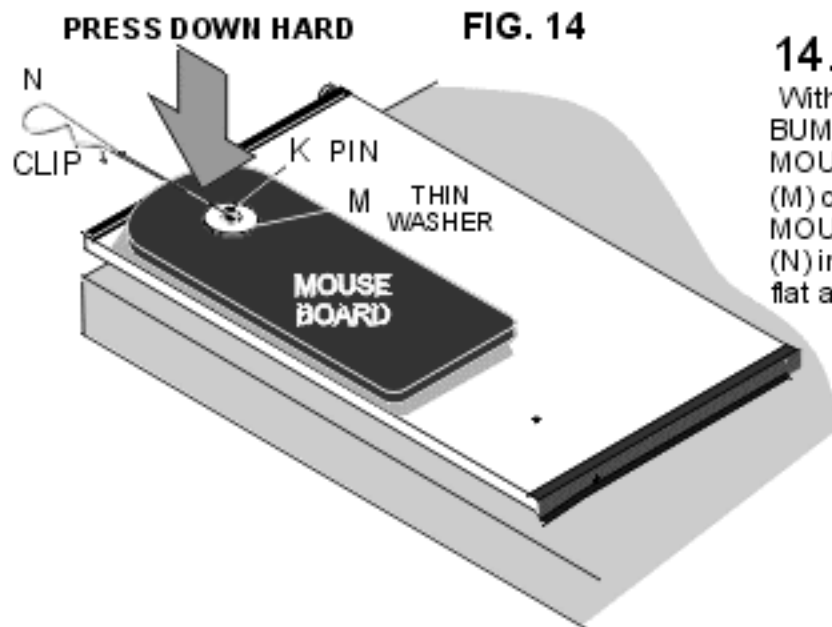

FIG. 14
With MOUSE BOARD turned up-side down (RUBBER BUMPERS facing down), align and insert large hole in MOUSE BOARD onto PIN (K). Place THIN WASHER (M) over PIN. FIG. 14 Press down hard on end of MOUSE BOARD over RUBER BUMPERS. Insert CLIP (N) into small hole at end of PIN to retain. Lay CLIP flat against washer.